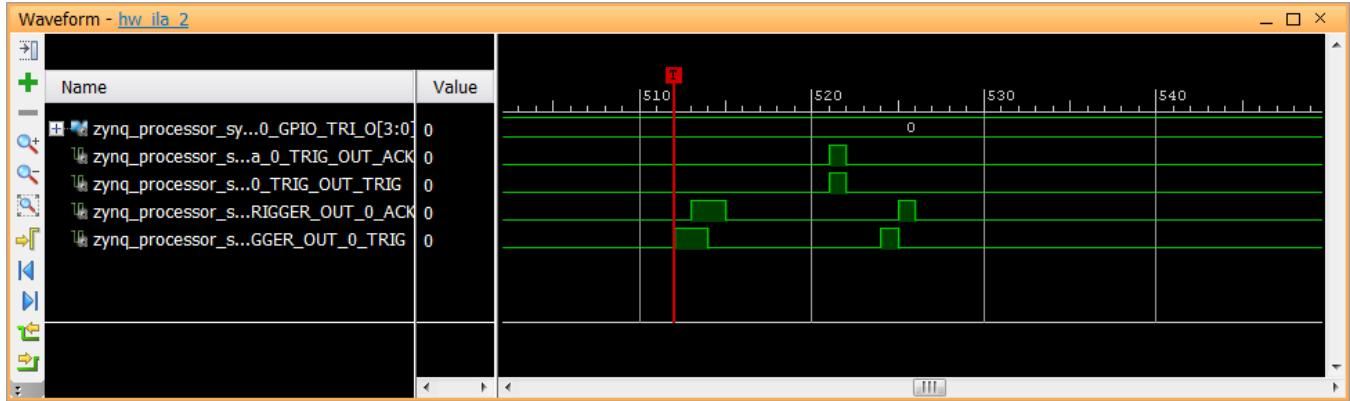

Figure 94: PS to PL Cross Trigger Waveform
8. In SDK, in the Debug window, click the **XMD Target Debug Agent** and click the **Resume** button  until the code execution reaches the breakpoint set on line 106 in the testperiph.c file. Vivado displays the hw_ila_2 trigger as shown in Figure 94.